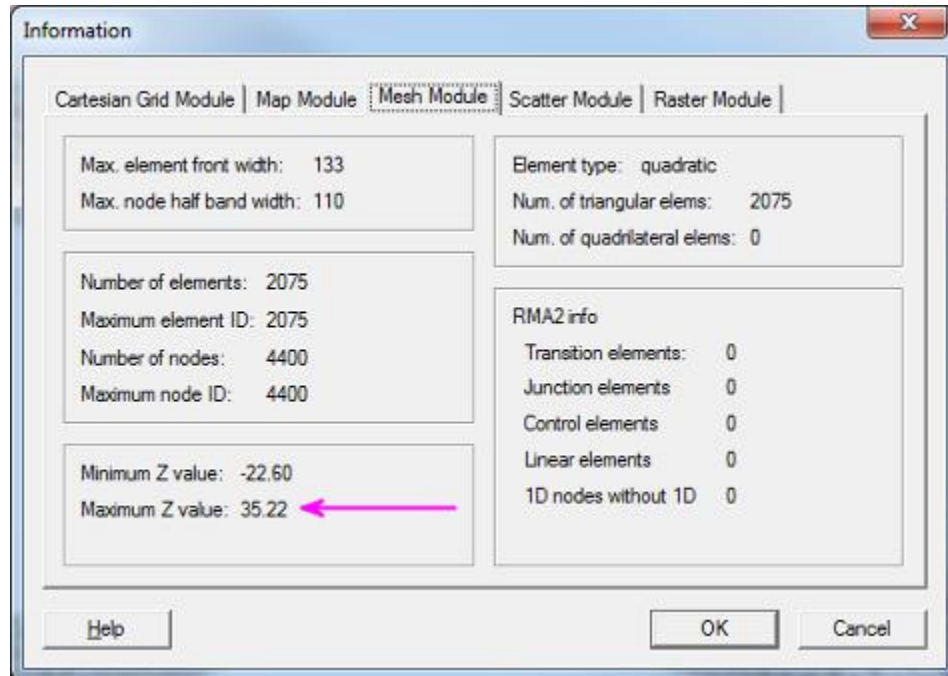

Figure 6 Mesh Information dialog
2. In the *Mesh Module* tab, look at the *Maximum Z value* highlighted in Figure 6 and click **OK** to close the *Information* dialog.